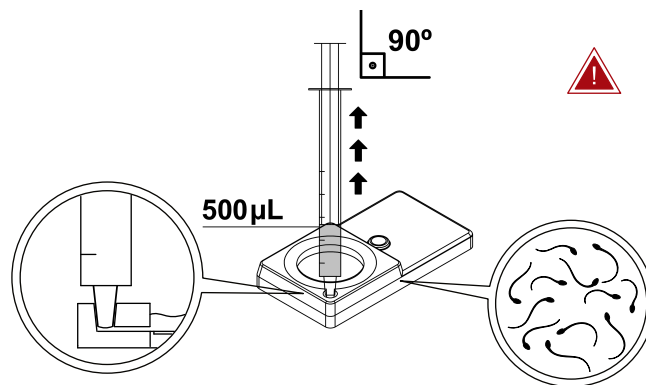

Figure 5. Slowly aspirate a maximum of 500  $\mu$ L.
8. After 30 minutes incubation, insert a fresh 1 mL syringe into the outlet port of device. Slowly aspirate a maximum of 500  $\mu$ L of the sperm-containing fluid (Figure 5).